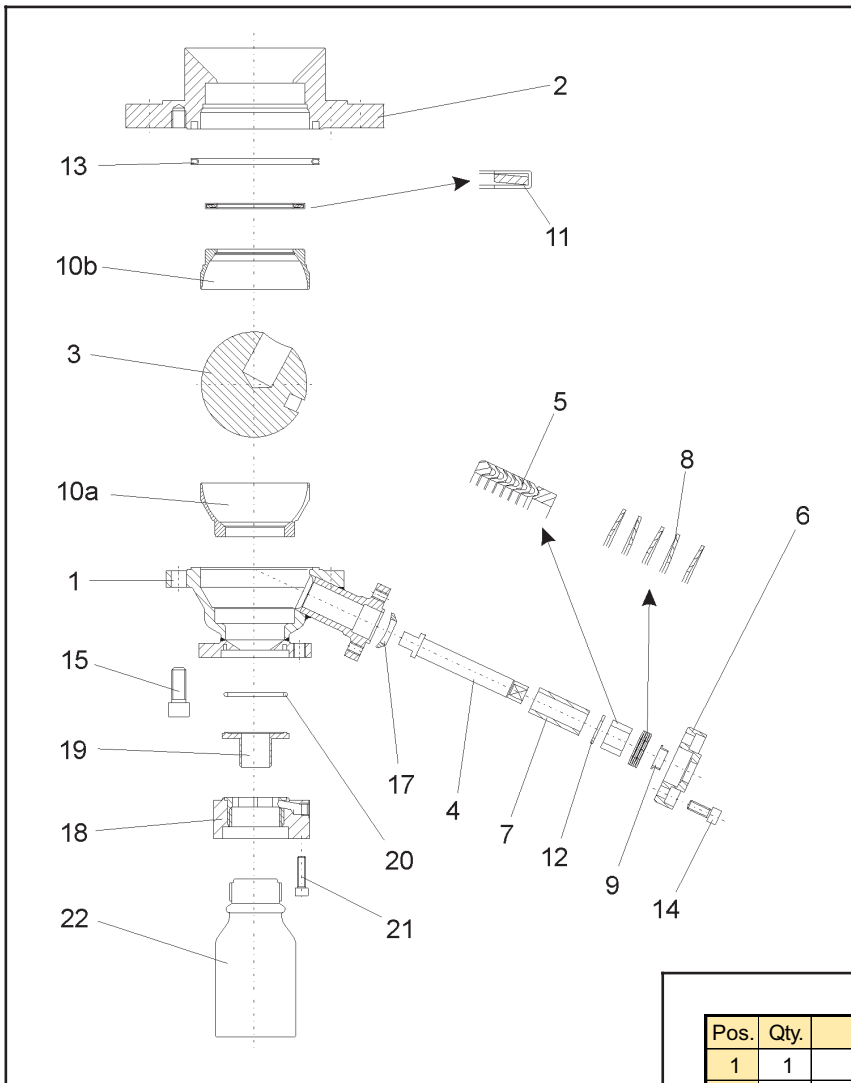

Fig. 3 - Explosion drawing of the sampling valve Series 27h
Place the lined spring washer (11) in the body inlet (2). The positioning of the spring washer is shown in the explosion drawing (Bild 3).
After lightly apply grease to the screws (15) e.g. stud bolts and nuts (16), tighten the screws evenly and in alternating pattern. With the appropriate tool, the V-ring packing (5) is inserted in the bore of the body, in the following order; Steel ring, PTFE- ground ring, PTFE-V-rings and steel-V-ring. For exact positioning and location of the V-rings, refer to the explosion drawing (Fig. 3) Now place the spring washer set (8) on the packing. Refer to the explosion drawing for exact positioning of the springs. (Fig. 3).